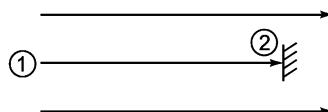

FIGURE 18.66 Flow is brought to stagnation.
- (a) **Stagnation temperature:** If a stream of gas is brought to rest, it is said to stagnate. This occurs on leading edges of any obstacle placed in the flow. Consider a horizontal flow as shown in Figure 18.66 which is brought to stagnation at point 2.